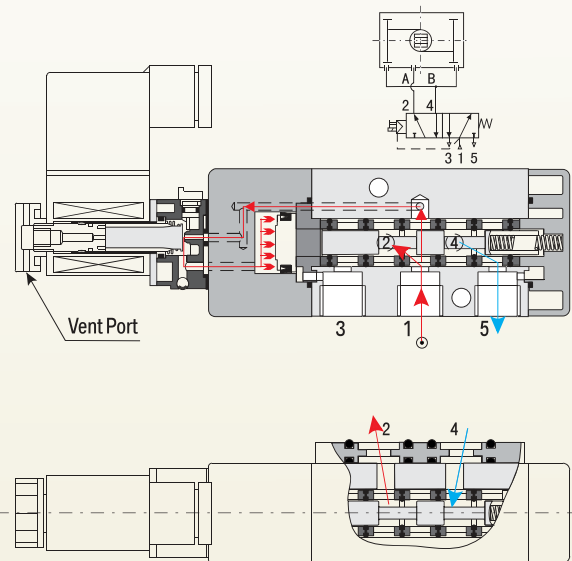

Fig.3 Coil energized
-Coil Energized: From Fig.3, we can find that when the coil is energized, the solenoid coil creates a magnetic field surrounding the plunger assembly and plunger. The plunger is lifted off its seat by this magnetic force and supply air provides an internal pilot pressure that is directed to the piston which shifts the spool and compress the return spring. This shifting directs the flow of supply air from inlet port 1 to outlet port 2 while outlet port 4 is connected to exhaust port 5. As for the standard assembly, the outlet port 2 is connected with port A of actuator. The air from outlet port 2 will move the pistons of actuator to opening position when the coil is energized.